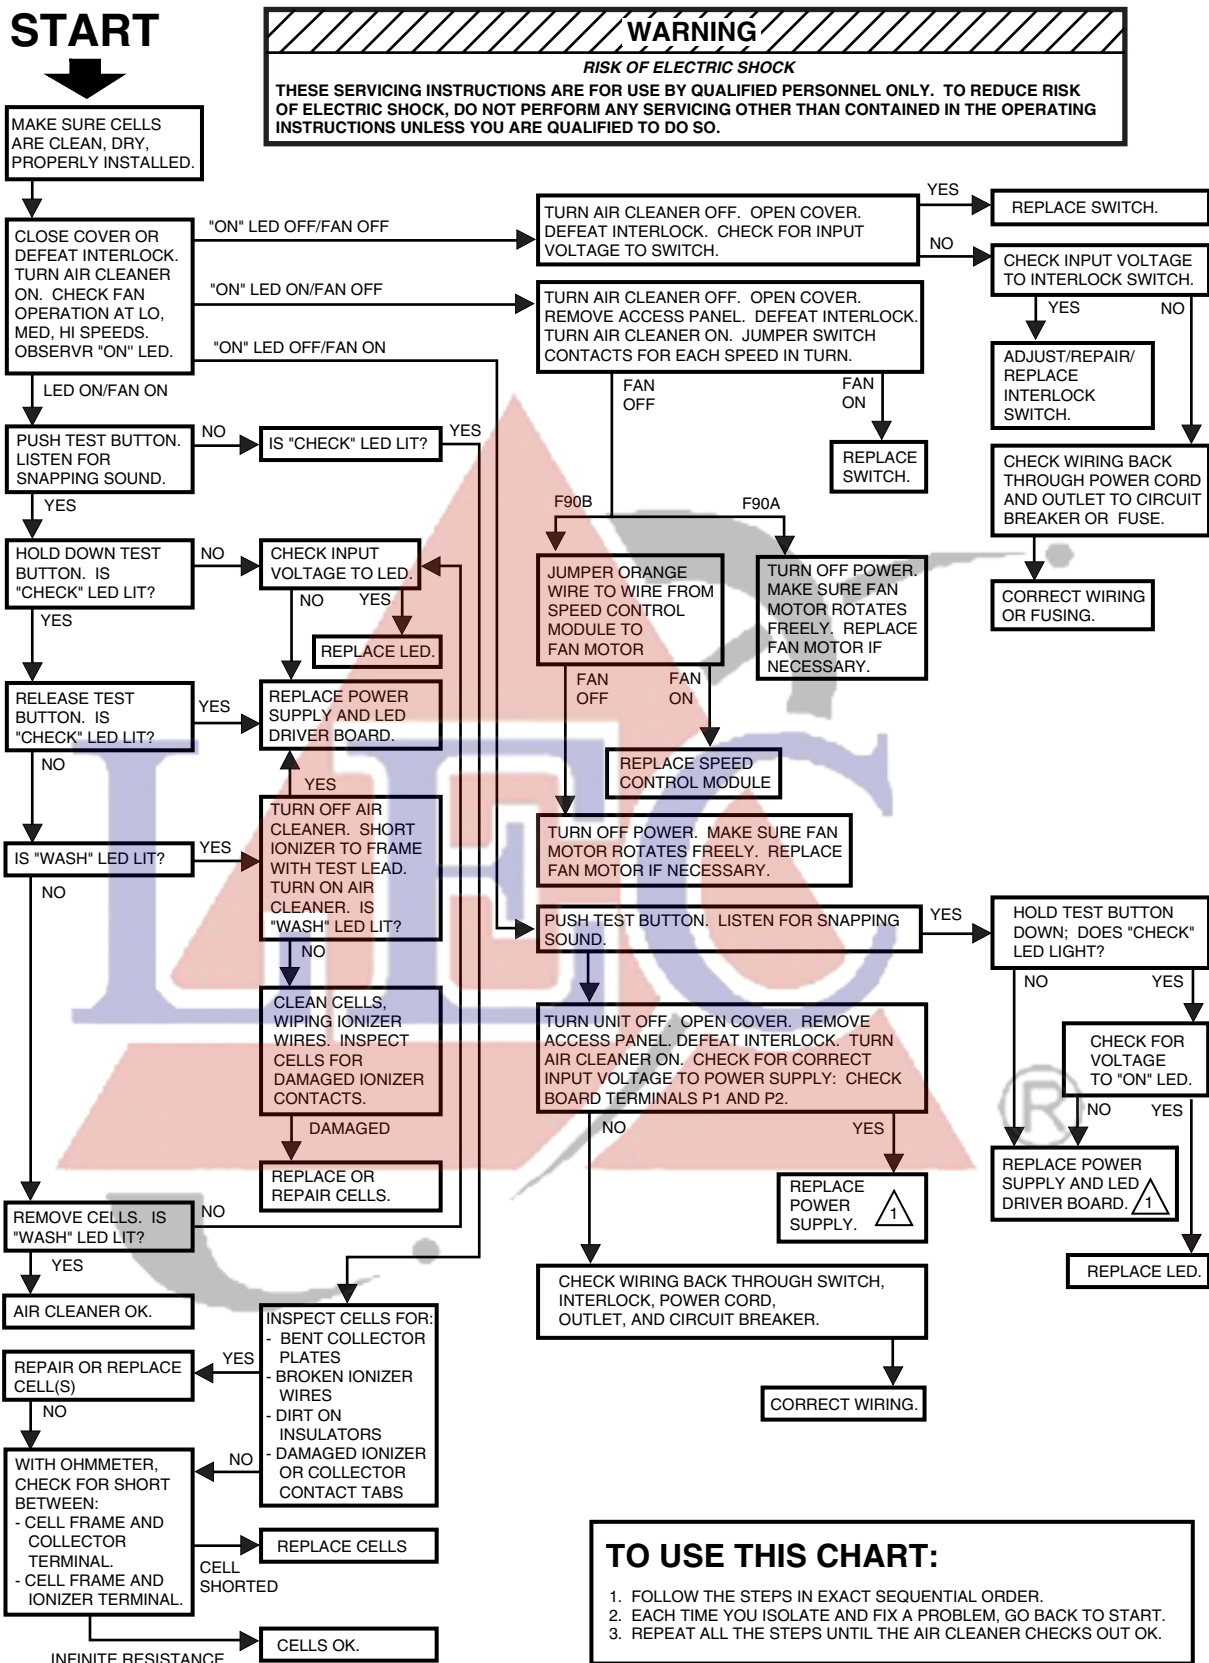
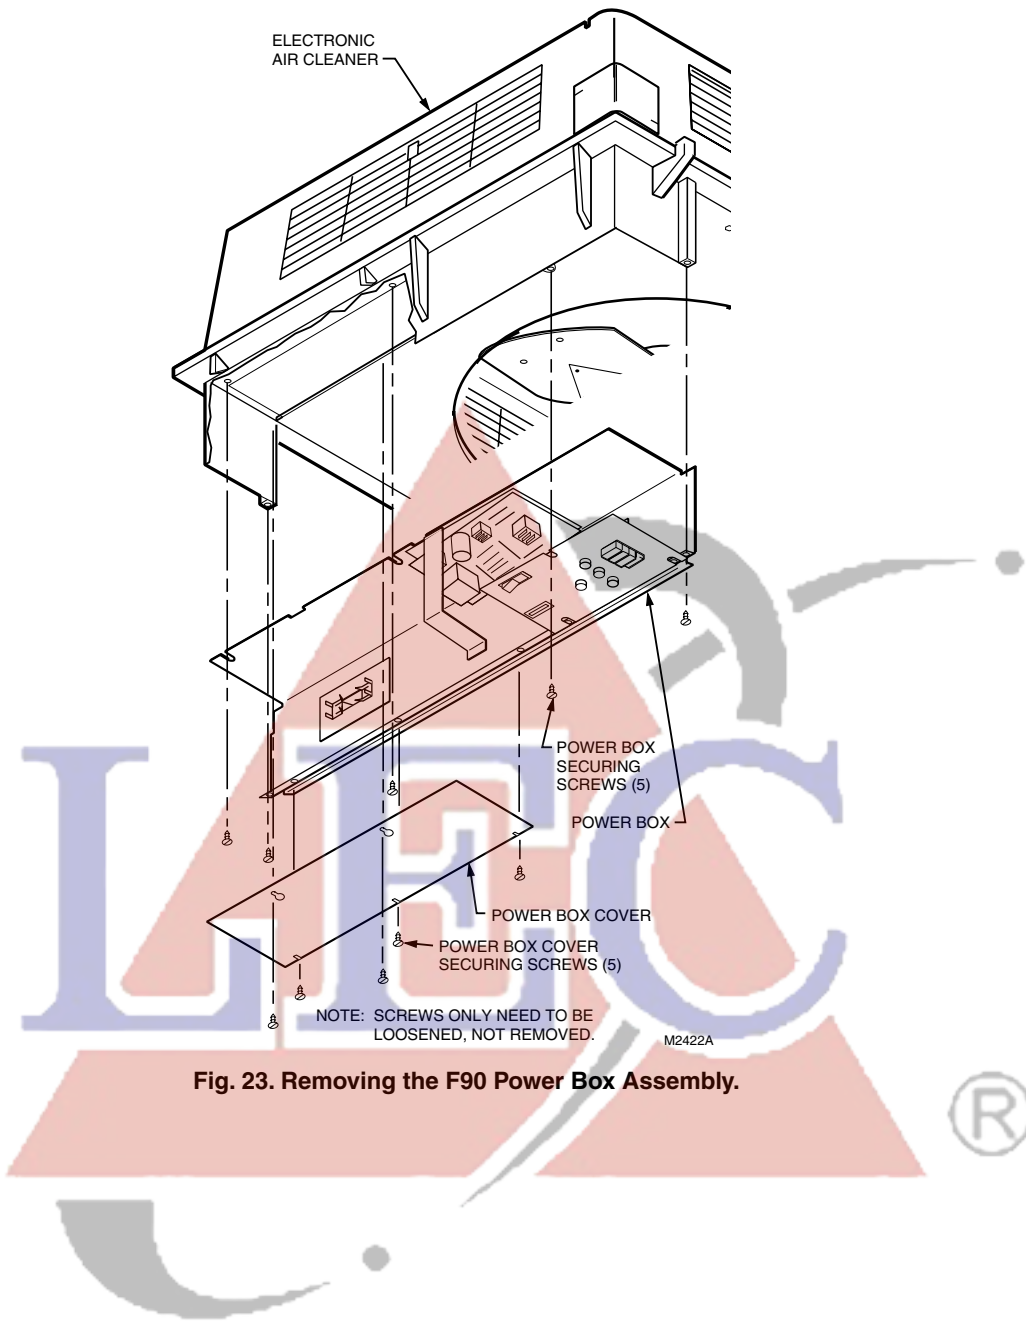
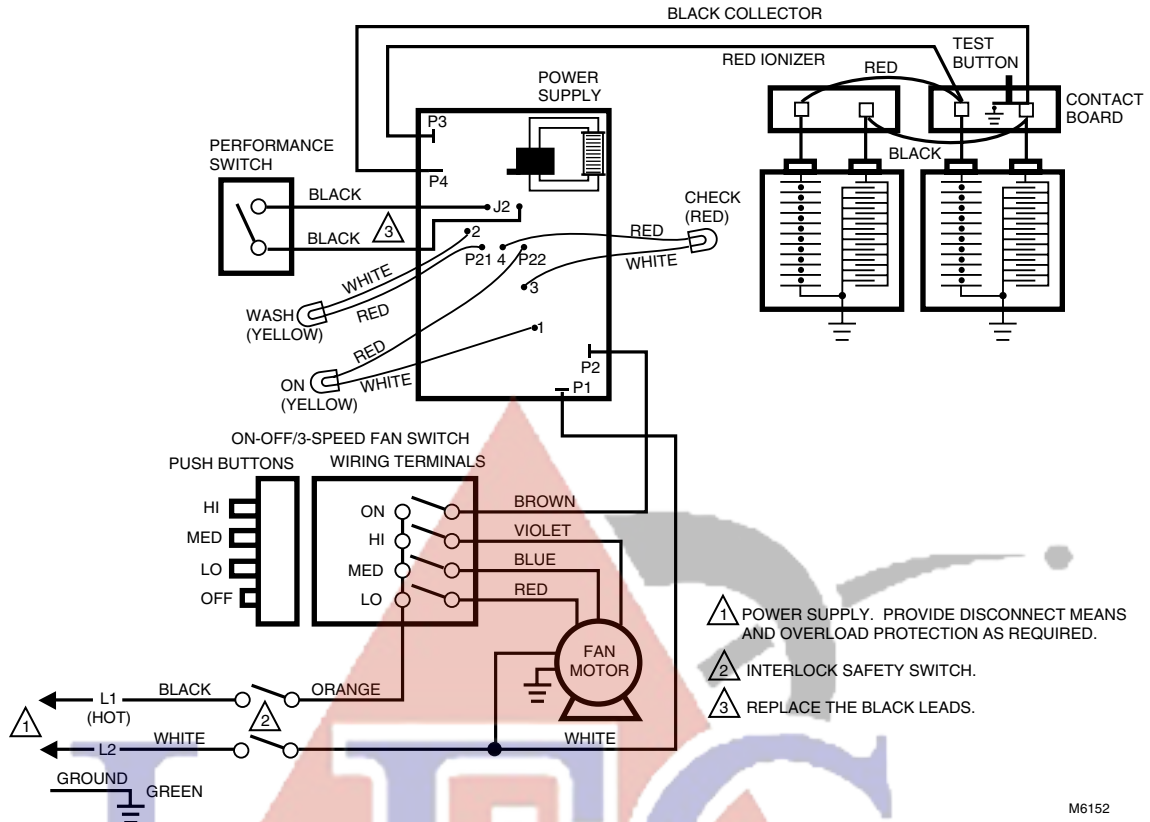

Fig. 22. F90 electrical troubleshooting procedure.
Fig. 23. Removing the F90 Power Box Assembly.
Fig. 24. F90A 120 Vac model schematic diagram.
4. Loosen two screws on inner wall of power supply assembly and three screws on the top of the assembly. Slide the power supply assembly toward the center of the air cleaner and disconnect the two Molex connectors and the one quick disconnect. See Fig. 23.
The F90 troubleshooting charts quickly isolate F90 problems. See Fig. 22. If removing power box, follow instructions below. See Fig. 23. For the F90 schematic diagrams, see Fig. 24 through 27.
3. Loosen the screws holding the power supply assembly cover plate and remove the cover plate. See Fig. 23.